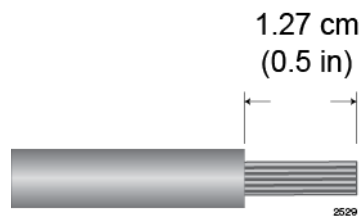

Figure 125. Stripping the Power Wires
1. Prepare adequate lengths of two stranded 8 AWG power wires by stripping them as shown in Figure 125.